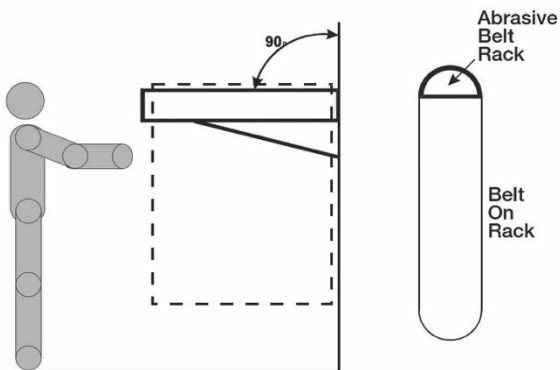

Figure 9-17: Storing Belts
- o Store abrasive belts on a rack for best results and longer belt life (see Figure 9-17). Use one rack per abrasive grit grade.